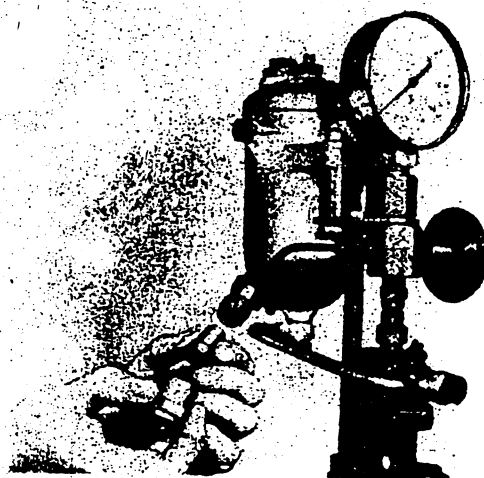

FIG. 132
7. Assemble the nozzle into the flushing tool (ET.427) with the nozzle face towards the smaller thread connector, as shown in Fig. 132, which should then be coupled to the nozzle setting outfit (ET.122 PA). The flushing tool should be arranged with the open end pointing downwards to facilitate particles being washed out.